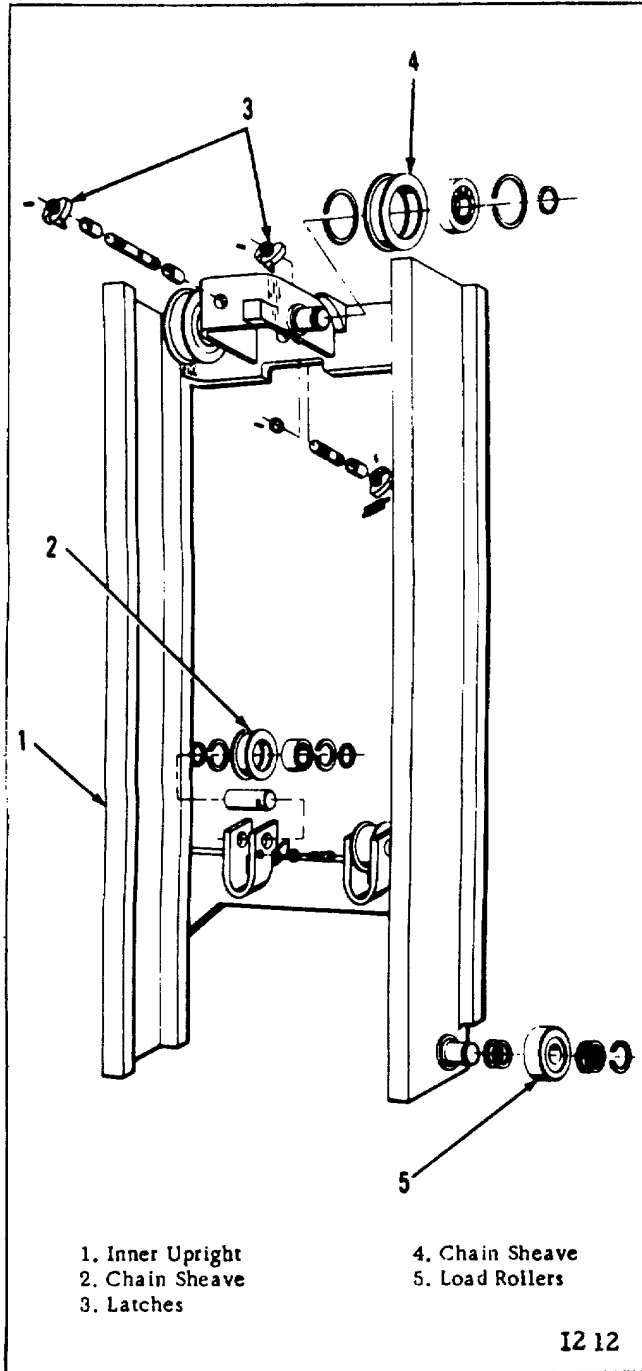

Figure 19.
A. GENERAL (Figs. 19, 20 and 21)
Inner Upright: Besides the latches, the inner upright has two load rollers, four chain sheaves and a box. The box is welded to the front of the upper crossmember. (Fig. 19) The two load rollers are located at the bottom of the upright, one on each outer side. Located on each side of the box is a chain sheave. The other two sheaves are located on the lower crossmember. The brackets to which these sheaves are attached have guards that prevent the load chains from jumping off the sheaves under certain operating conditions.